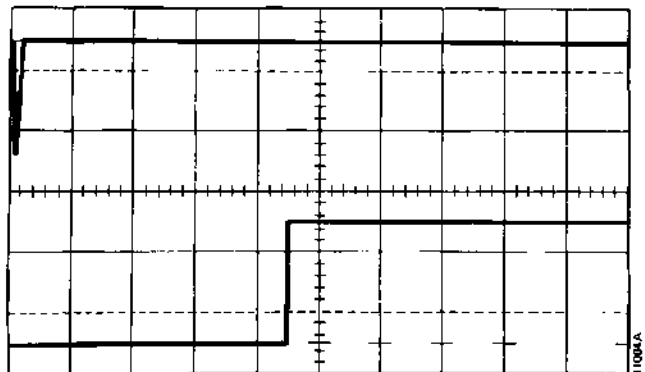

Figure 4-11. Track 00 Alignment Waveform
6. Verify that the track 00 pulse (channel 2) goes high between four and five divisions (4 to 5 milliseconds) after the step out (channel 1). See Figure 4-11.